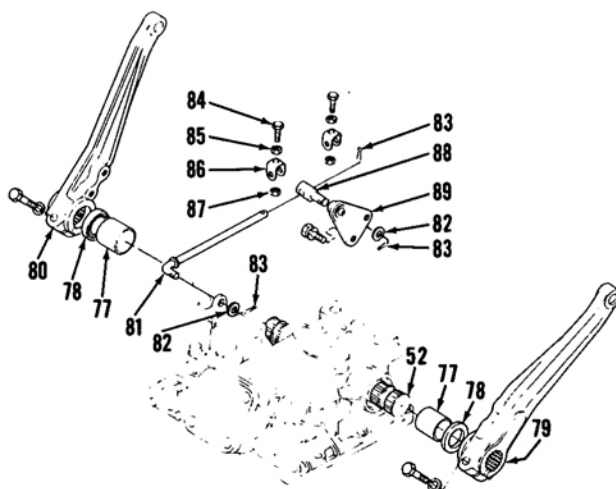

Fig. 103—Exploded view showing rocker shaft, lift arms and control rod assembly typical of all models.
100. OVERHAUL. Remove seat mounting brackets. Remove four cap screws securing cylinder head (64 or 67—Fig. 102) to lift cover (51), then separate components. Extract piston (59) from cylinder bore. Place suitable alignment marks on lift arms (79 and 80—Fig. 103) and rocker shaft (52) to ensure correct positioning during reassembly. Remove cap screws securing left and right lift arms (79 and 80) on rocker shaft (52), then withdraw left lift arm (79) and right lift arm (80) with control rod assembly (81 through 89). Place a suitable alignment mark on rocker shaft (52—Fig. 102) and arm (53) to ensure correct positioning during reassembly. Hold snap ring (54) open and lightly tap rocker shaft (52) against small diameter end to drive rocker shaft (52) from arm (53). Remove oil seals (78—Fig. 103). On models equipped with diverter valve cylinder head (67), disassembly is evident after referral to Fig. 102.
Clean all components with a suitable cleaning solvent, then blow dry with clean compressed air. Inside diameter of cylinder bore should be 60.06-60.10 mm (2.365-2.366 inch) with an allowable limit of 60.15 mm (2.368 inches). Cylinder bores should not taper more than 0.05 mm (0.002 inch). Measure vertical and horizontal inside diameter of lift cover bushings (77—Fig. 103). Right side bushing (large end) diameter should be 31.97-32.04 mm (1.2587-1.2614 inches) with an allowable limit of 32.4 mm
cant and coat all seals and "O" rings with a thin film of oil prior to reassembly. Be sure rocker shaft (52—Fig. 103) align-